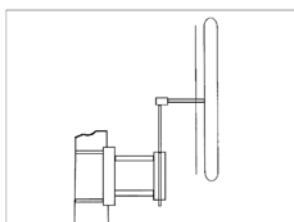

fig. 20
- Tighten the fastening nuts (fig. 20)